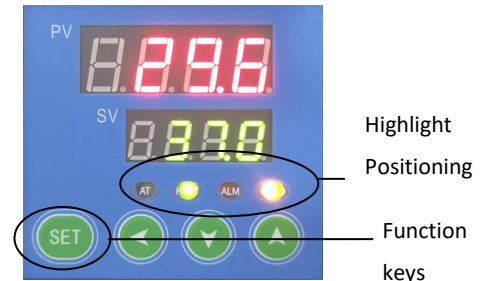

Figure 5
3.1 (See Figure 5) Click "SET" key, The PV screen displays